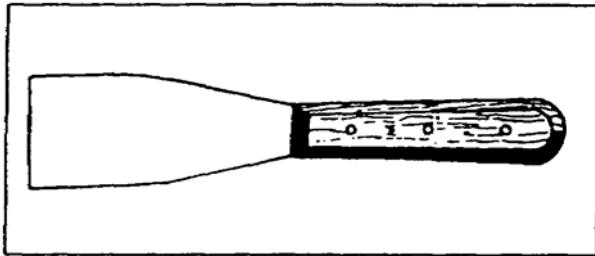

Figure 3-7. Putty knife
d. Putty Knives. Among the many different putty knife styles available (Figure 3-7), there are those with short, stiff blades; long, flexible blades; wide blades, and narrow blades. The original purpose of putty knives was to glaze window panes into window frames, but they are often used to scrape old paint surfaces and apply joint cement to sheetrock walls. Putty knives seldom need sharpening, but they should be stored in a manner to prevent damage to the blades.